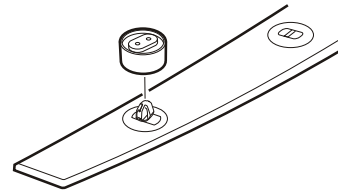

FIGURE 1
- Ensure the retaining clips are protected by the rubber marker caps to prevent over spray contacting the retaining clips. Refer to figure 1.